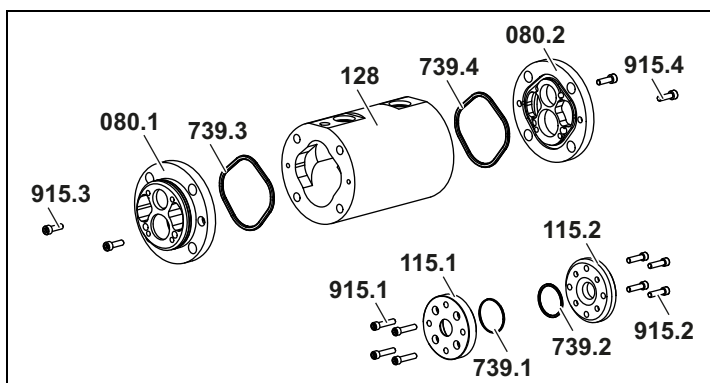

Fig. 12
- ☐ Completion consisting of socket screws **915.1/915.2**, flanges **115.1/115.2** and seals **739.1/739.2** removed, overview see Fig. 12, page 34
1. Remove the socket screws **915.3** and **915.4**, take off the bearing cover **080.2**. Remove the O-ring **739.4**, overview see Fig. 12, page 34.